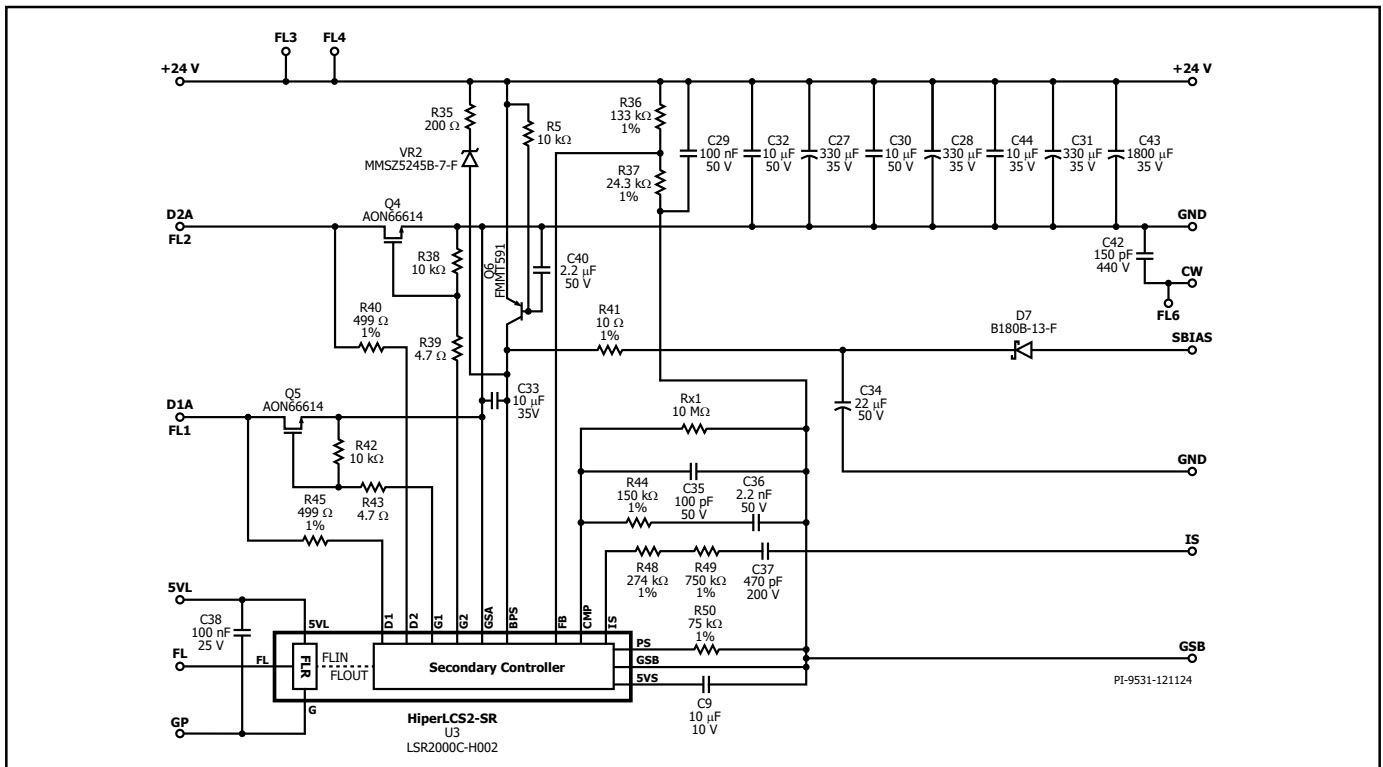

Figure 15. HiperLCS-2 Isolation and Secondary-Side 220 W, 24 V LSR2000C.
This section describes the secondary schematic in Figure 15. The HiperLCS2-SR (U3) has isolated primary side pins. Pin 5VL receives 5VL voltage from LCS2-HB. Pin GP couples to primary small signal ground (GP). Capacitor C38 provides local decoupling to the 5VL and GP pins of U3. The FL pin provides a FluxLink signal to the primary HiperLCS2-HB.